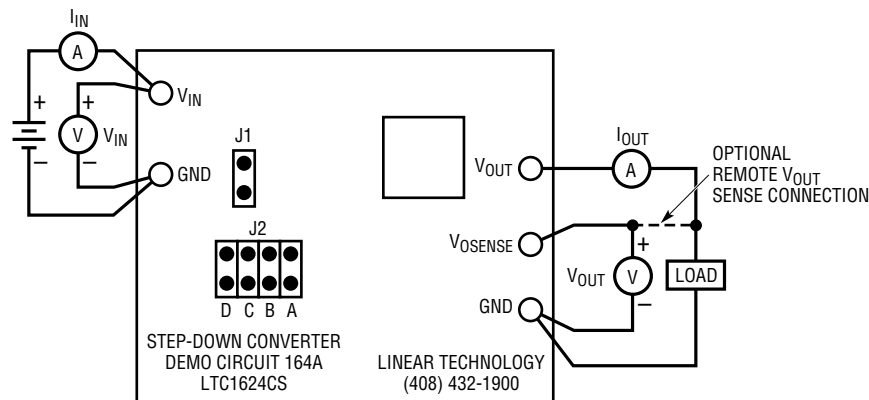

Figure 3. Proper Measurement Setup
- Refer to Figure 3 for board orientation and proper measurement equipment setup.
When trying to measure voltage regulation, remember that all measurements must be taken at the point of regulation. This point is where the LTC1624's control loop looks for the information to keep the output voltage constant. In this demonstration board this information point occurs between the signal ground and the output side of  $R1$ . These points correspond to the GND (E5) and  $V_{OSENSE}$ (E4) terminals of the board. Output voltage test leads should be attached directly to these terminals. The load should be placed across  $V_{OUT}$  (E3) to GND (E5). Measurements **should not** be taken at the end of test leads at the load; refer to Figure 3 for the proper monitoring equipment configuration.